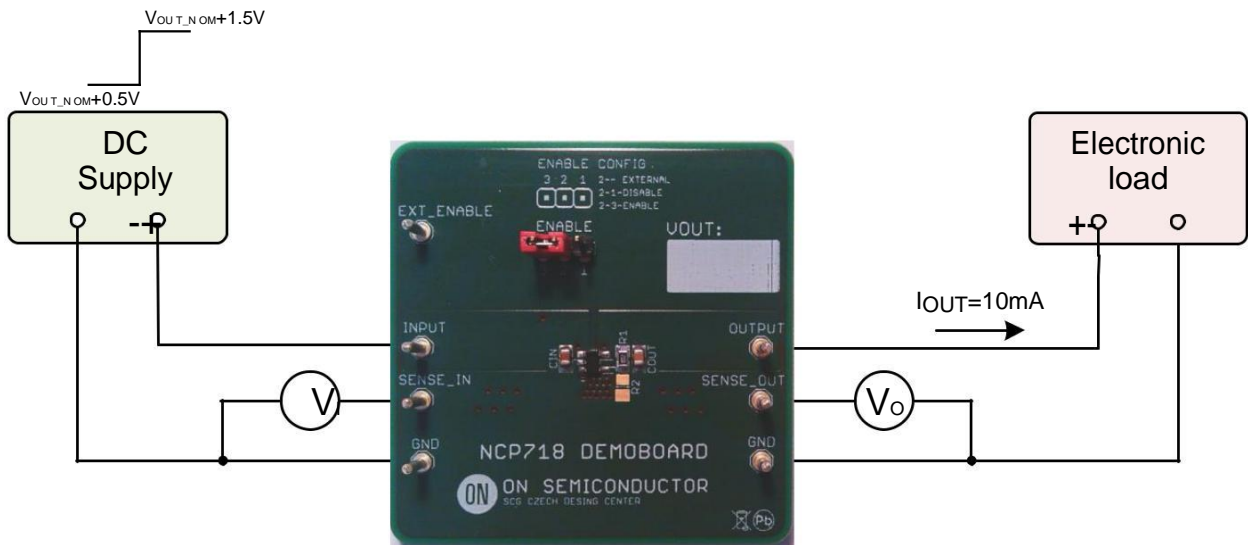

Figure 3: Test configuration for measurement REG_{LINE} , Line Regulation
1. Connect circuit as shown on figure 3.